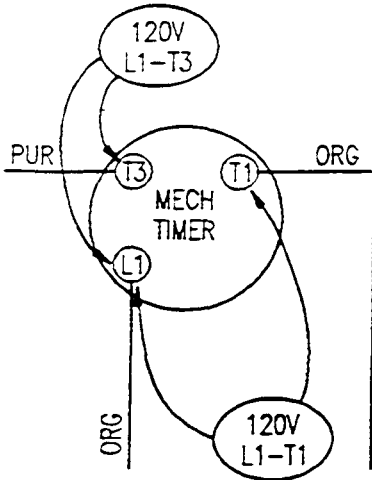

Figure 6-30. Mechanical Dial Timer
6. Set the timer dial to 10 minutes. Refer to Figure 6-30. Check for 0 VAC across timer terminals L1-T1, and 115/120 VAC across timer terminals L1-T3.